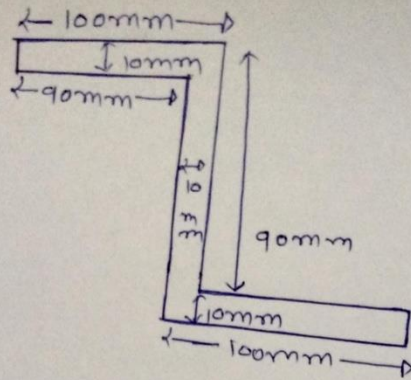

Fig. 1
- (c) Find out moment of inertia of FIG 1 about x-x axis. 04